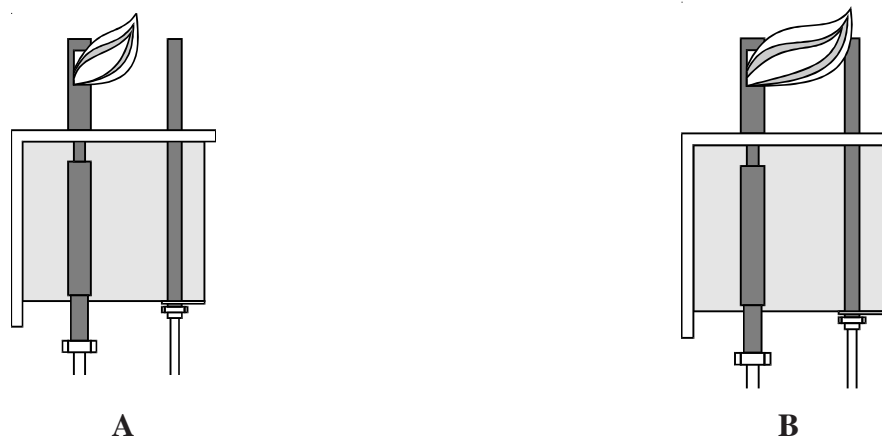

Figure 1-1 Pilot Assembly, Flame Adjustment
1.5.2.1 Pilot Flame Adjustment - The pilot flame should be adjusted to produce the proper millivolt output from the pilot sensing device. Millivolt output for the thermopile should be between 300 and 500 millivolts. This procedure is only necessary on the manual pilot ignition system. Figure 1-1 shows the pilot assembly with examples of the incorrect and correct pilot size. Example A illustrates a pilot flame size that is too small to produce sufficient millivolt output. Example B is the correct size for proper millivolt output.